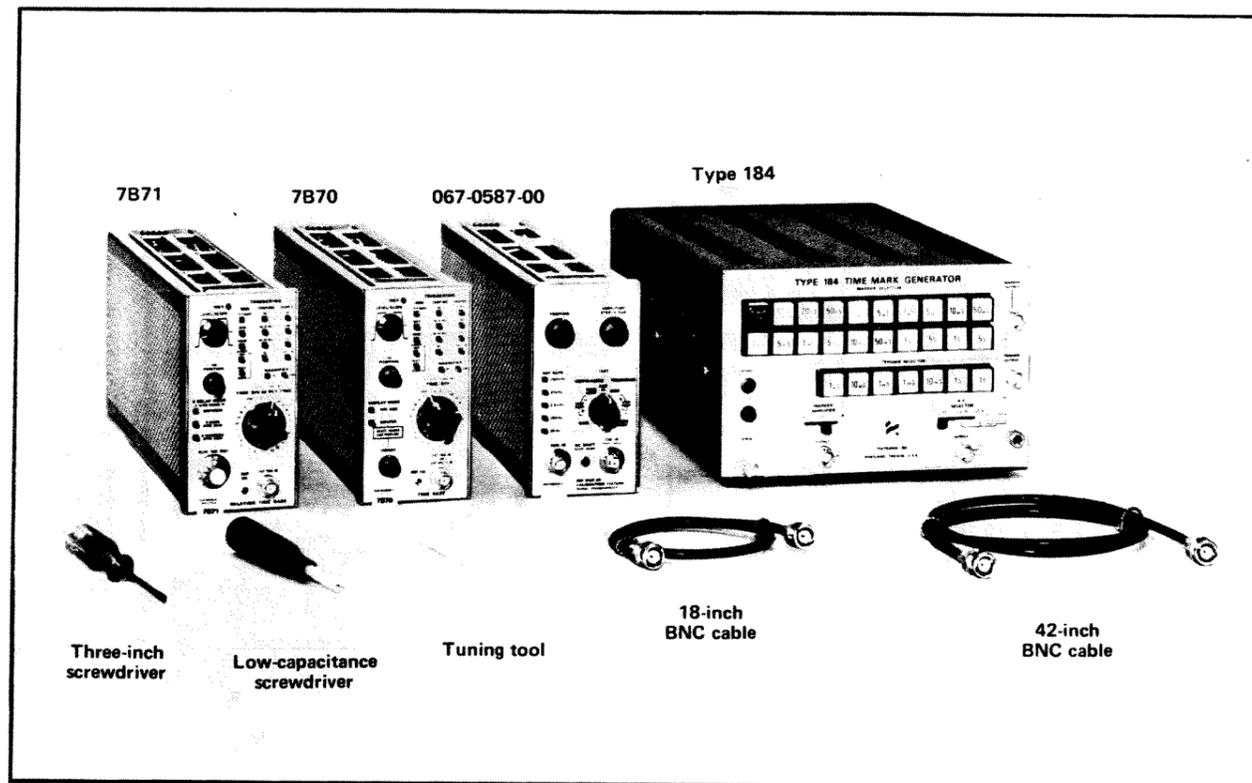

Fig. 5-12. Test equipment required for steps 12 through 17.
- a. Test equipment required for steps 12 through 17 is shown in Fig. 5-12.